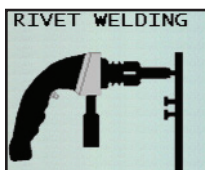

Figure 6.19
2. Select Rivet Welding Program by pressing the Left or Right Navigation Buttons (fig. 4.9). Make sure that Rivet Welding graphic appears on the screen (fig. 6.19).